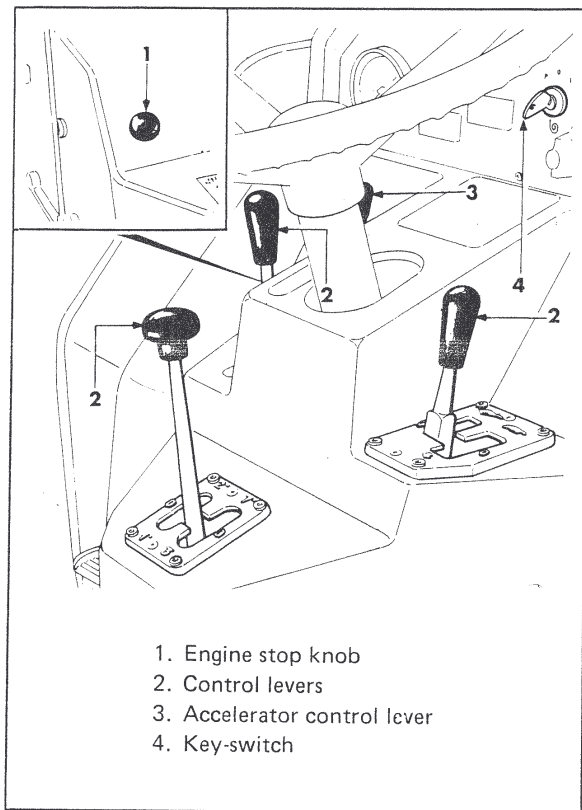

Figure 7. Controls for starting the engine
- For normal starting, proceed as follows (see figure 7).
2. Make sure that all control levers (2) are in NEUTRAL position.
3. Bring accelerator control lever (3) to half-way position.
4. Insert key in switch (4) and turn it to position "2".
3. Pull engine stop knob (fig. 7, detail 1).